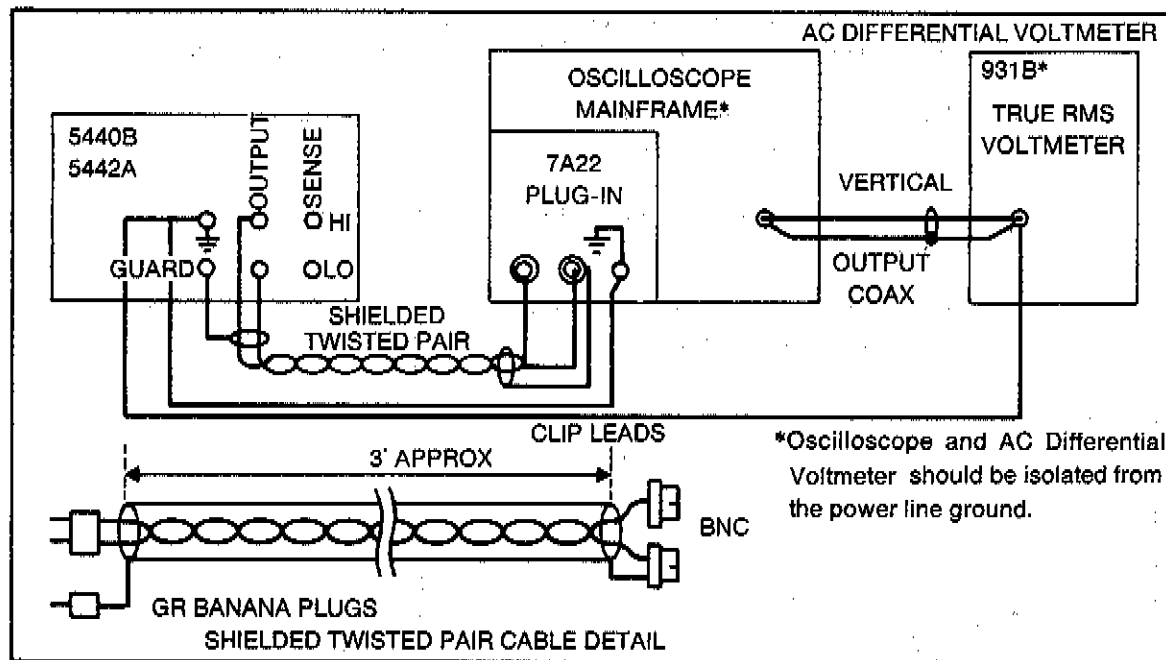

Figure 3-6. Output Accuracy Millivolt Configuration
1. Connect the dual banana jack end of the special shielded twisted pair cable (see Figure 3-6) to the output of the 5440B/5442A.